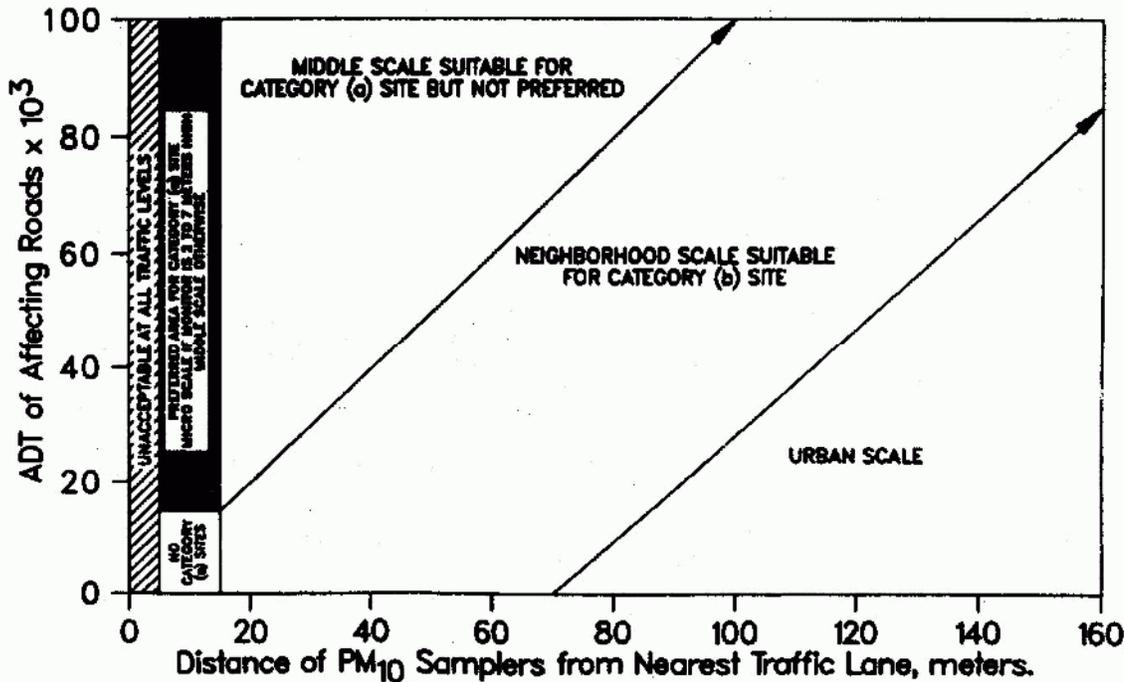

Figure 4-1 Acceptable areas for Micro, Middle, Neighborhood and urban samplers except for micro scale street canyon sites
**4.1.3.2 Middle scale and Neighborhood scale:** Figure 4.1 provides guidance on the recommended sampling distances from the paved roads with different levels of average daily traffic.